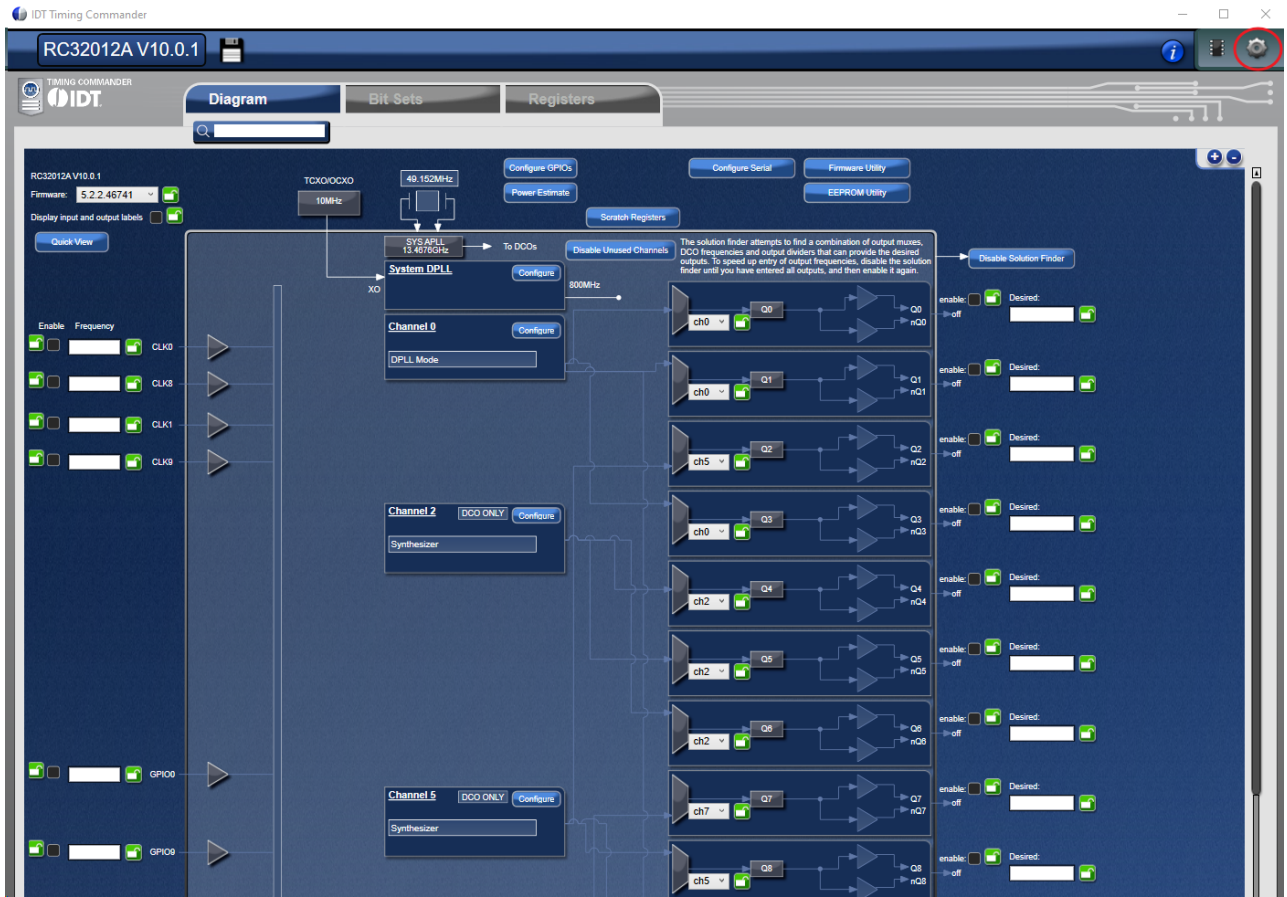
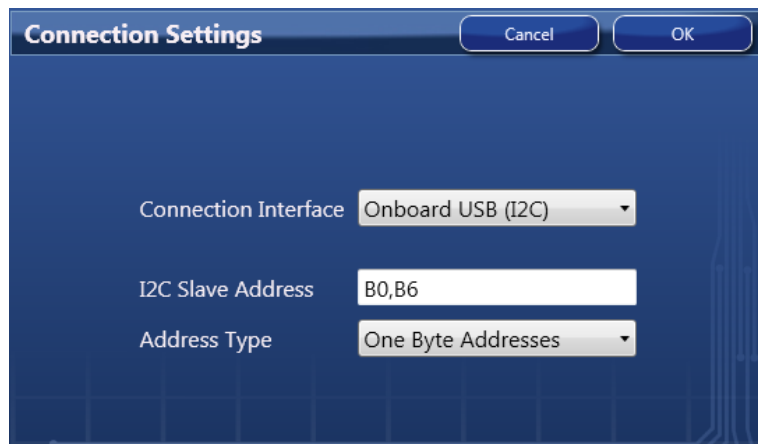

Figure 9. Timing Commander GUI with a Settings File Opened
Figure 10. Setting I2C for Connecting the Board with GUI
By using FTDI dongle, we can connect to a customer board and use the Timing Commander GUI just like working on a ClockMatrix evaluation board. When using the FTDI dongle to connect to a customer board, in Timing Commander “Connection Settings” window, “On-board USB (SPI)” is selected in Connection Interface box (see Figure 10), same as connecting to a Renesas evaluation board.
- The GUI window with the RC32012A block diagram will open for configurations; or if “Open Settings File” is selected in Step 5 above, you will be prompted to browse and select an existing .tcs file and the personality file. When the configuration file is open, all configured values will be displayed as in Figure 9.
- In order to connect the board with Timing Commander (PC), click the button (red circle) at the up-right corner of the GUI to set up the communication protocols (see Figure 9). After I2C and one-byte addressing are selected, click OK to close the window (see Figure 10).